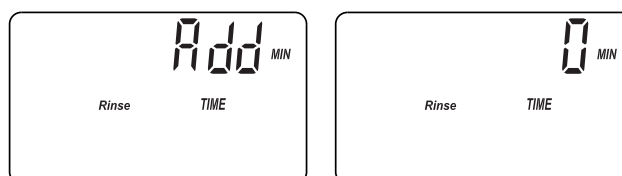

FIG. 34
**BACKWASH & FAST RINSE TIMES:** If you experience salty tasting water after regeneration, you may need to increase the backwash and fast rinse times. The cycle times during regenerations are determined by the softener’s electronic controller. However, you may increase the backwash and fast rinse times, in 1 minute increments. If you wish to increase the backwash time, use the  $\triangle$  UP button to add up to 15 minutes to the backwash time. Then press SELECT to display the alternating screens shown in Figure 34.